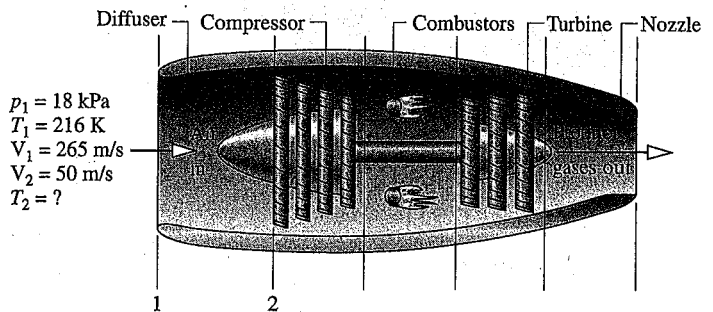

Fig. P6.163
6.163 As shown in Fig. P6.163, air enters the diffuser of a jet engine at 18 kPa, 216 K with a velocity of 265 m/s, all data corresponding to high-altitude flight. The air flows adiabatically through the diffuser, decelerating to a velocity of 50 m/s at the diffuser exit. Assume steady-state operation, the ideal gas model for air, and negligible potential energy effects.